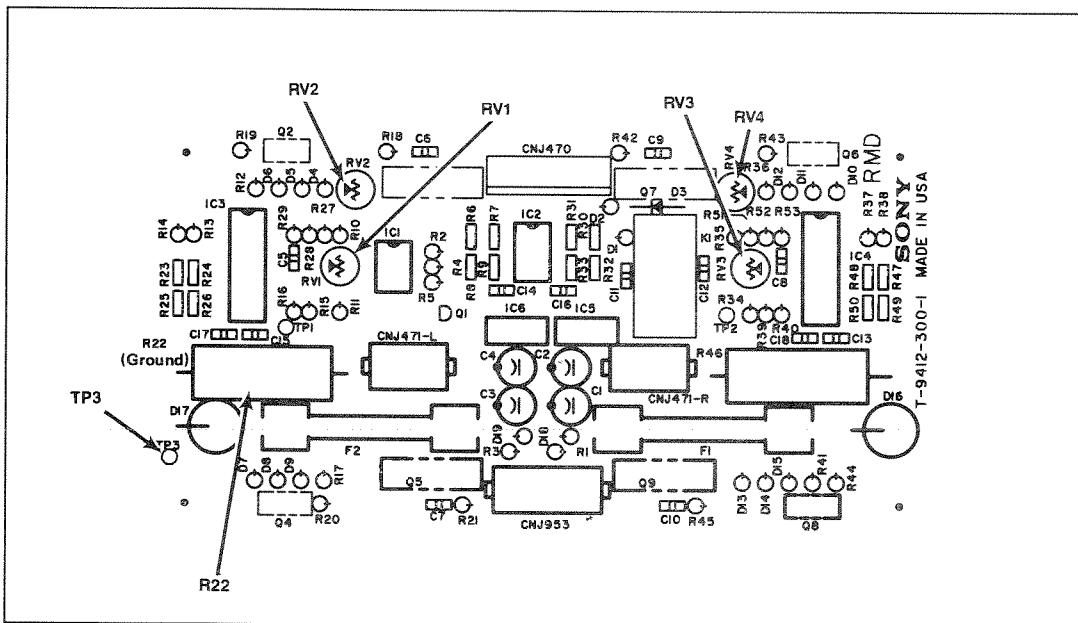
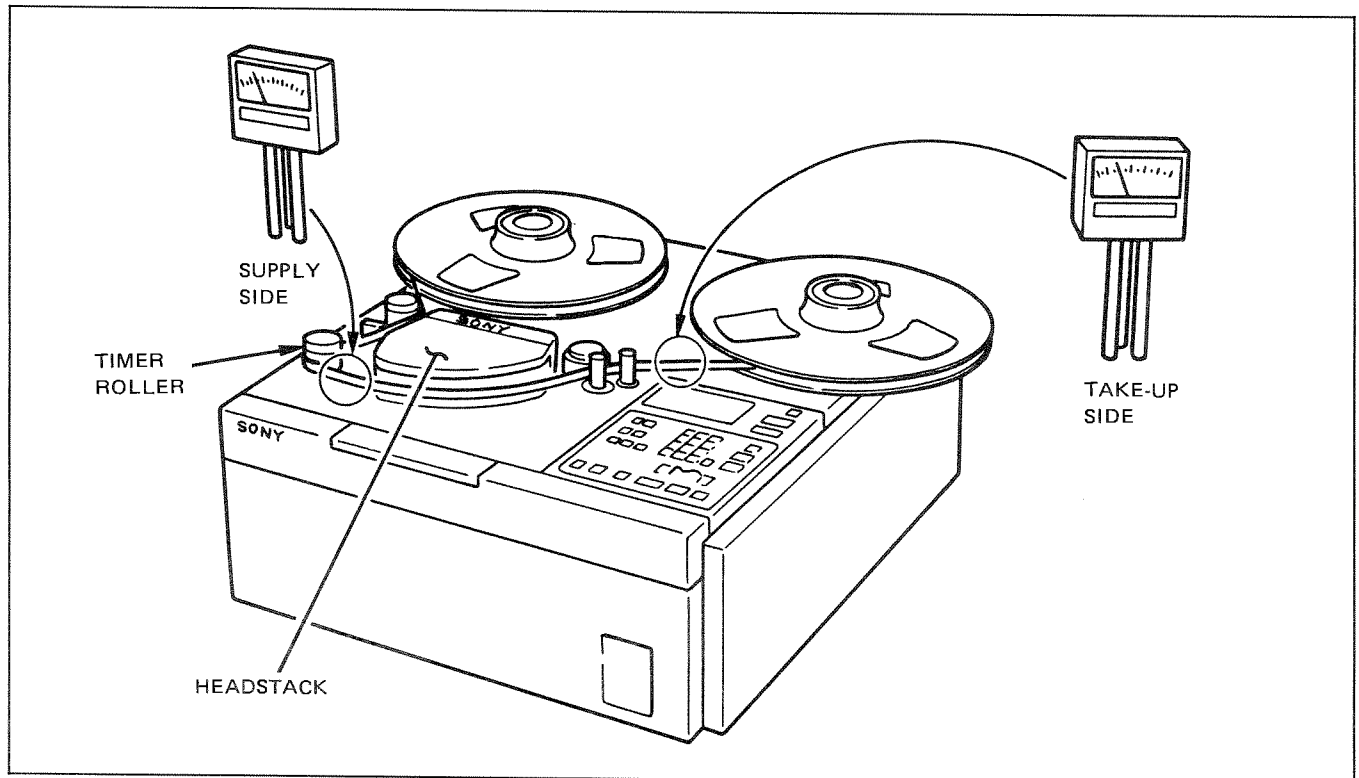

Figure 6-18. RMD Adjustments
Figure 6-19. Tape Tension Measurement
- STEP 2** With the machine in EDIT mode and power on, connect a DVM across R22. Ensure that the negative probe is attached to the grounded end of R22, which is closest to the RMD PC board's edge. Refer to Figure 6-18 for the location of R22 and the ground connection.
- STEP 4** Move the DVM probes across R46. Ensure that the negative probe is attached to the grounded end of R46, which is closest to the RMD PC board's edge. Refer to Figure 6-18 for the location of R46 and the ground connection.
- STEP 4** Place the tentelometer between the Timer roller and Headstack (See Figure 6-19.) Adjust RV1 (see Figure 6-18.) on the RMD assembly (rear panel) for 70 grams  $\pm$  5 grams.
- STEP 5** Place the tentelometer between the capstan motor and the take-up motor. (See Figure 6-19.) Adjust RV3 on the RMD assembly for 120 grams  $\pm$  5 grams.